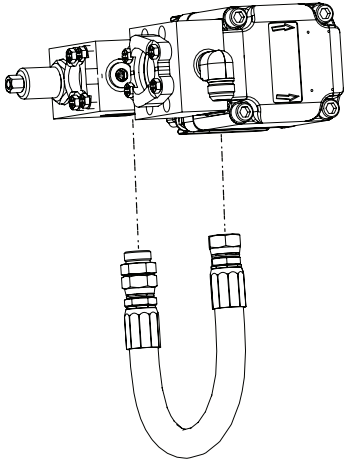

Figure 1
6. Remove the hose from the EOC and spacer block (Figure 1).